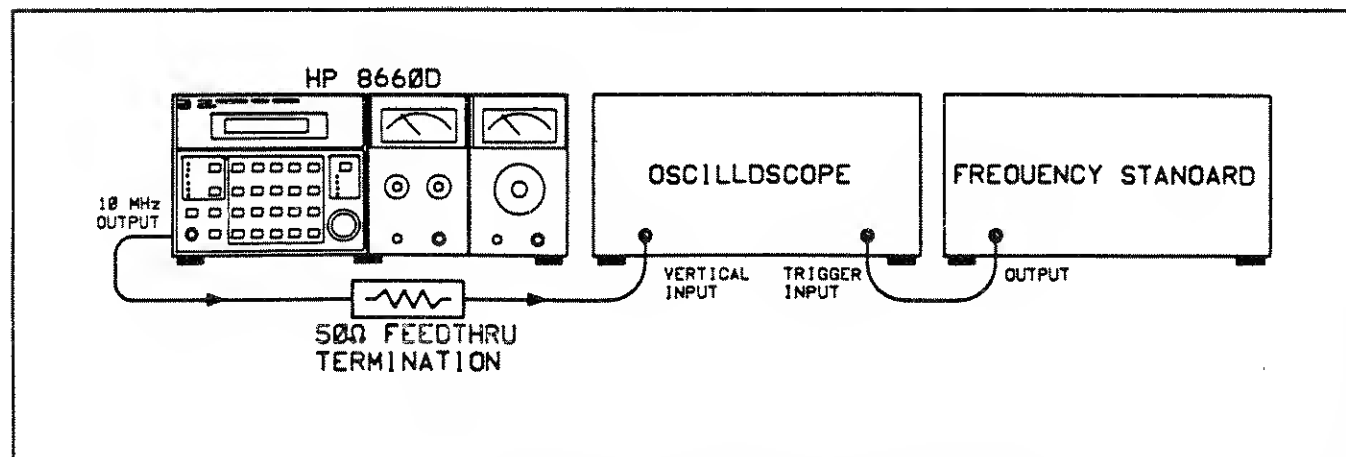

Figure 4-1. Crystal Oscillator Aging Rate Test Setup
2. Connect the equipment as shown in Figure 4-1.